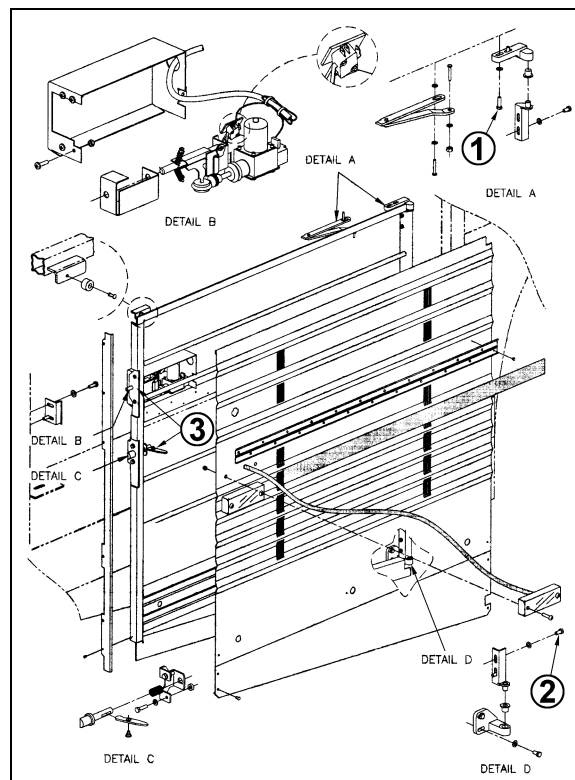

FIGURE 100: ENGINE COMPARTMENT R.H. SIDE DOOR18635
1. Loosen the bolts, (1, Fig. 100) holding the hinge to the vehicle structure to shift the door "IN or OUT" and "UP or DOWN".
2. Loosening the bolts (2, Fig. 100) allows the door to be shifted "LEFT or RIGHT" and "UP or DOWN".
To adjust the latch mechanism (3, Fig. 100) and the striker pin: